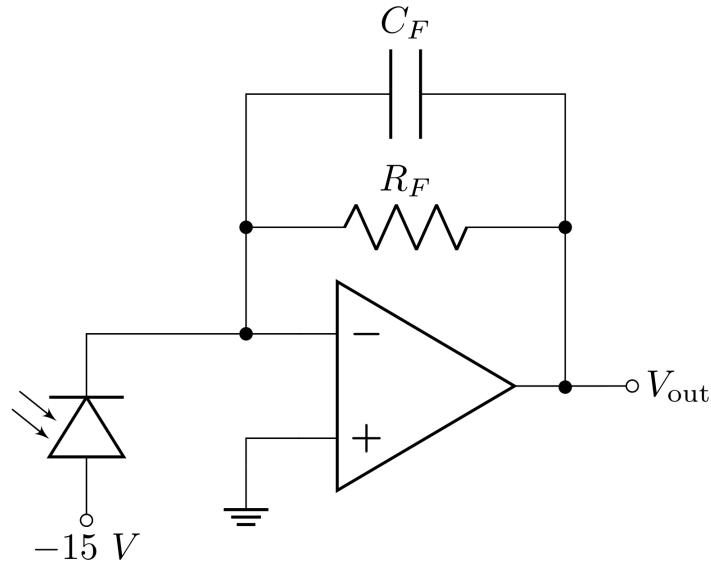

Figure 7: A basic photometer with reverse biased photodiode.
- Reconfigure the amplifier such that the input is a current from a photodiode (PD204-6C). Refer to Figure 7 if you need help remembering the correct orientation of the photodiode. Draw the updated circuit diagram in your lab notebook. For the -15 V , you can connect the anode to the same voltage source powering the negative power pin of the op-amp.